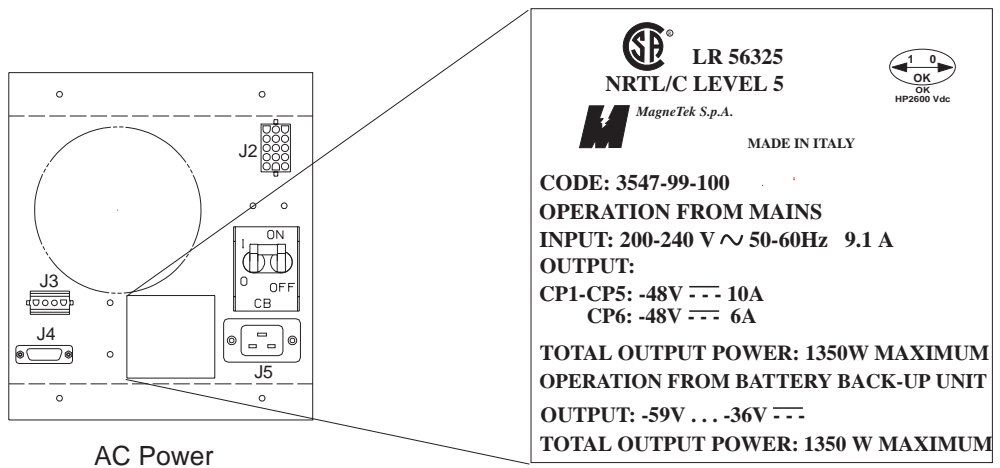
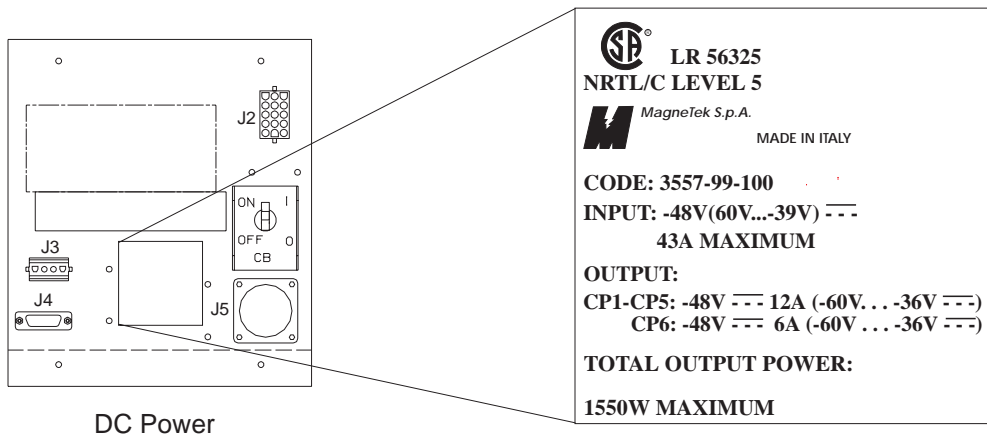

Figure 2-5. ac Power Rating Plate
Figure 2-6. dc Power Rating Plate
2. \_\_\_\_ Check that the power rating plate data (see Figure 2-5 on page 2-8 and Figure 2-6 on page 2-8) are consistent with the customer's available voltage AC or DC, and the frequency.